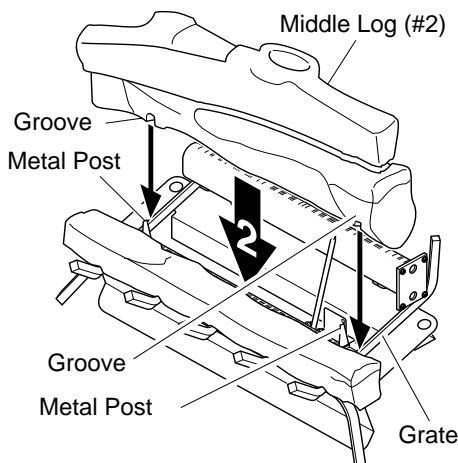

Figure 35 - Installing Middle Log (#2)
2. Rest middle log (#2) behind metal posts on front burner. Make sure the grooves in the bottom of the log fit over the grate. Bring the log forward next to the metal posts (see Figure 35).